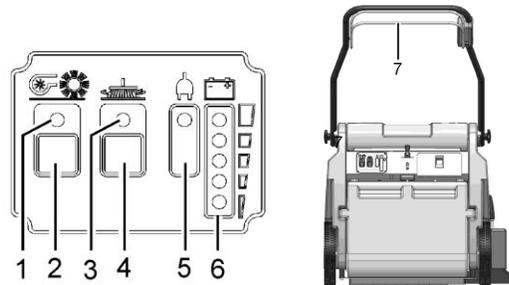

Fig. 5
**ON/OFF button for rotary brush, side brush and suction turbine (Fig. 5/1).**
To prevent unauthorized use of the machine, be sure to switch the machine off using the button (Fig. 5/1).
**Control lamp for rotary brush drive, side brush drive and suction turbine (Fig. 5/2).**
**ON/OFF button for side brush drive (Fig. 5/3).**
**Control lamp for side brush drive (Fig. 5/4).**
**Control lamp for battery charger operation (Fig. 5/5).**
**Charge control indicator (Fig. 5/6).**
### **Drive bar (Fig. 5/7).**